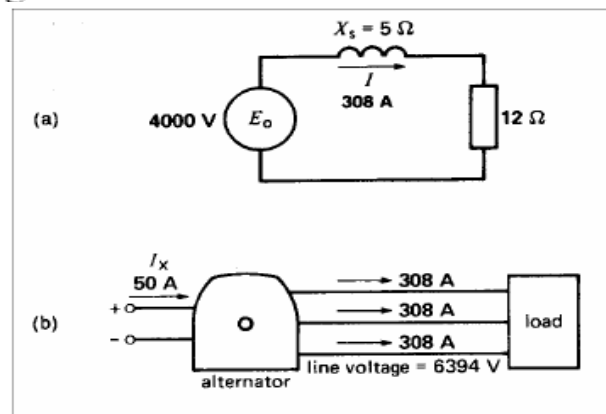

Fig. 1 See Example b. Actual line voltages and currents.
Figure.1 (a) The per-phase equivalent circuit of a synchronous generator without armature reaction while depicting the revolving field produced by the rotor. The phasor diagrams for a (b) lagging pf, (c) unity pf, and (d) leading pf.
b. The equivalent circuit per phase is shown in Fig. 1
The schematic diagram of Fig. 1 helps us visualize what is happening in the actual circuit.